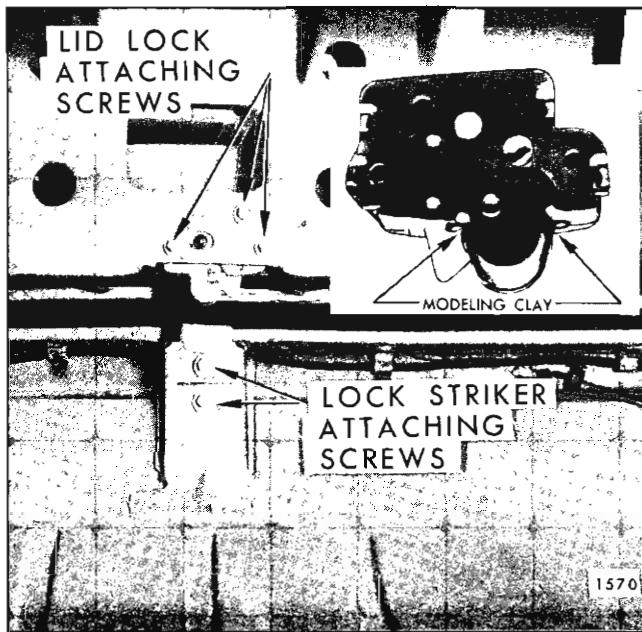

Fig. 2F14—Rear Compartment Lid Lock and Striker Attachments
- Insert a small quantity of modeling clay on frame of lock on both sides of lock bolt (Fig. 2F14). Close lid with moderate force.